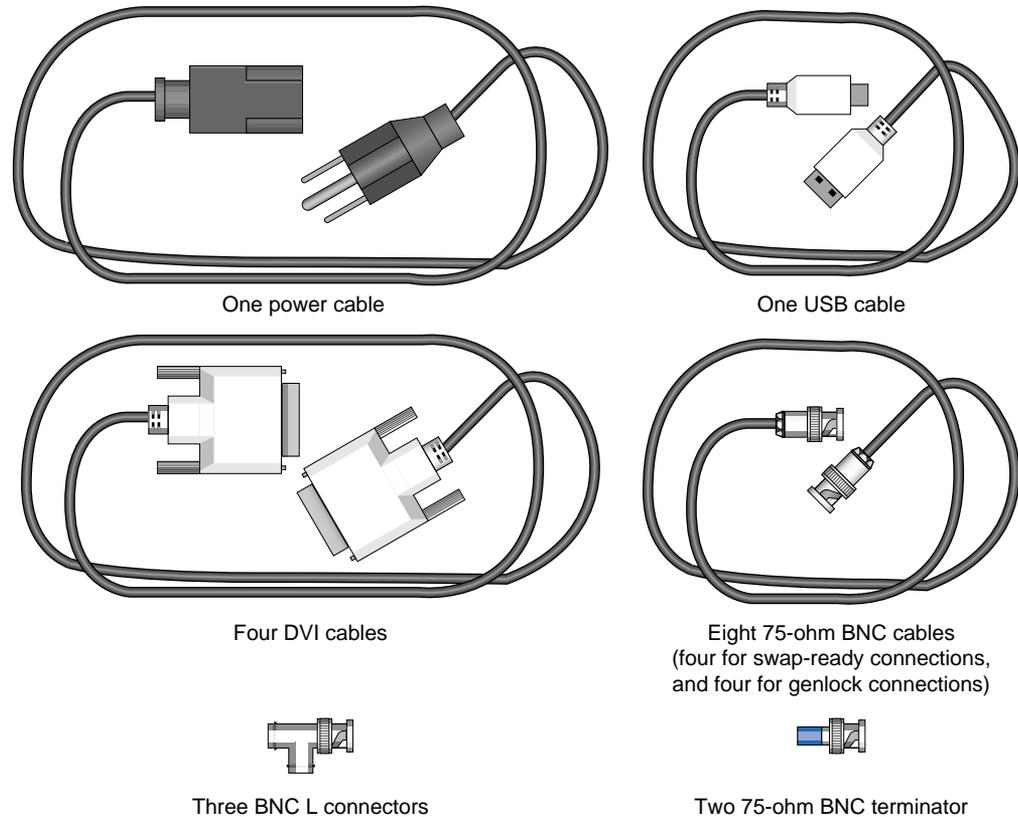

Figure 2-10 Cables and Other Cabling Items Needed for Installation
2. Gather the following cables and other cabling items, most of which are shown in Figure 2-10: